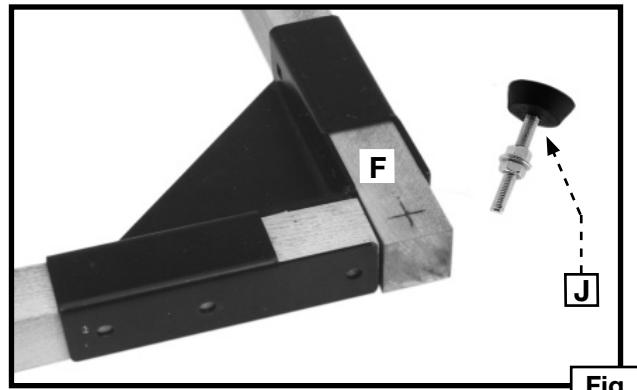

Fig. 9
9. On the same end of the base where the pivot bracket will be located, measure 3/4" from the end and the side of the two side boards (F) Fig. 9 (the end without wheels). Mark the location where you will drill the two 7/16" holes that will accept the two leveling legs, one of which is shown at (J).